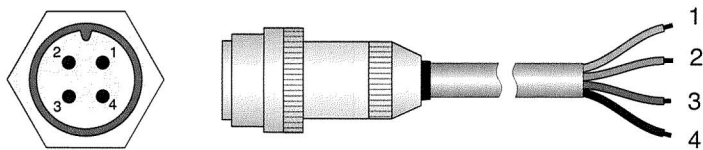

Fig.3
- The optional cable is terminated with a connector at one end and it is made of PTFE UV-proof. It is provided with 3 wires and a braided wire (shield). Cable colors and connector poles are matched as follow (figure 3):